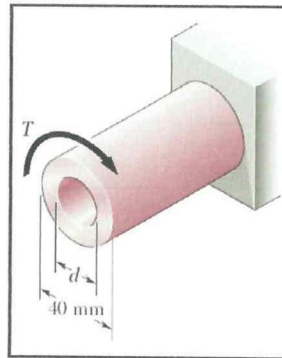

Figure Q4(b)
- (b) Refer to **Figure Q4(b)**, knowing that the internal diameter of the hollow shaft shown is $d = 23$ mm, determine the maximum shearing stress caused by a torque of magnitude $T = 1.0$ kNm.